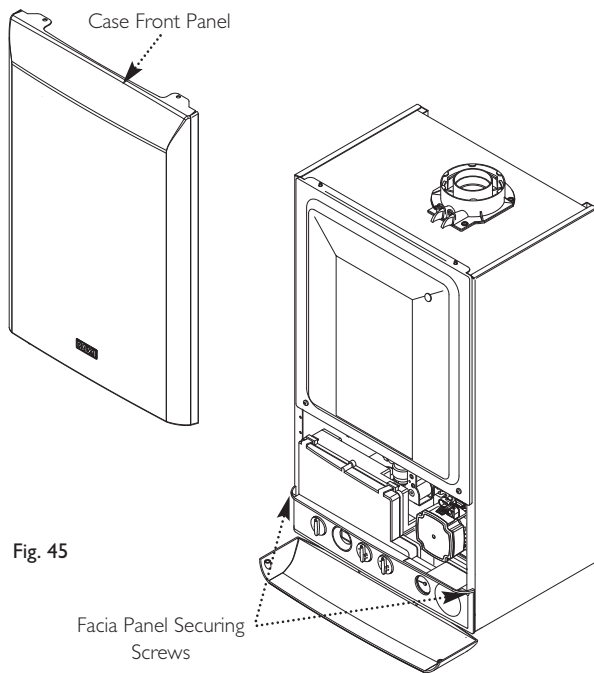

Fig. 45
3. Slacken the screws securing the fascia panel. Lift the outercase panel so that its securing tabs are clear of the fascia. Remove the panel, allowing the fascia to hinge down (Fig. 45).